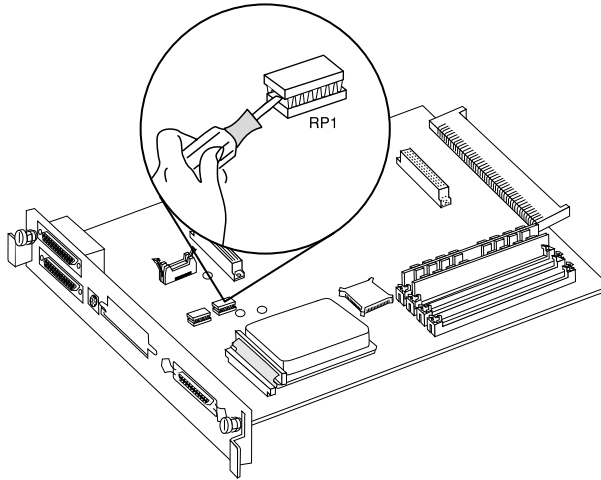

Fig. 8.23 *Remove the DIP Resistor*
5. Use a flat-tipped screwdriver to remove the existing 1K-ohm DIP resistor from the RP1 socket (fig. 8.23). Gently slide the screwdriver under the resistor and lift it up and off the controller board.